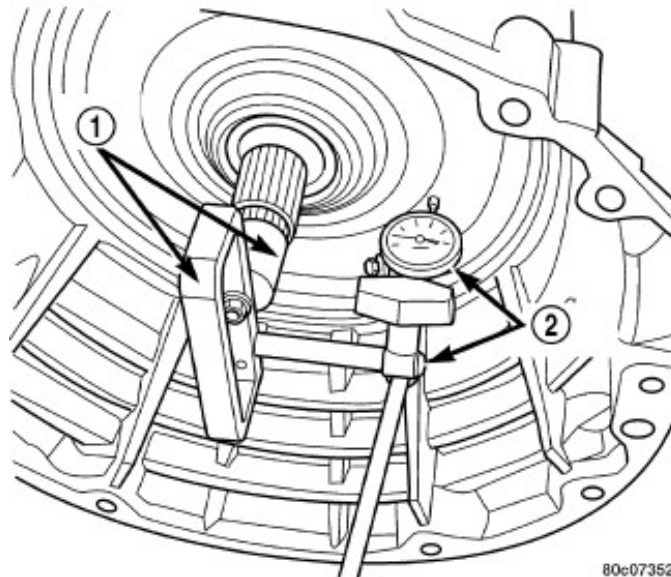

Fig. 23
45. Using Adapter 8266-17 from End-play Tool set 8266B and Dial Indicator C-339A, measure and record the input shaft end-play. The correct end-play is 0.52-0.74 mm (0.020-0.029 in.). Adjust as necessary. Install the chosen selectable rear selected thrust plate/shim on the number 5 thrust bearing and re-measure the end-play to verify selection Fig. 23.